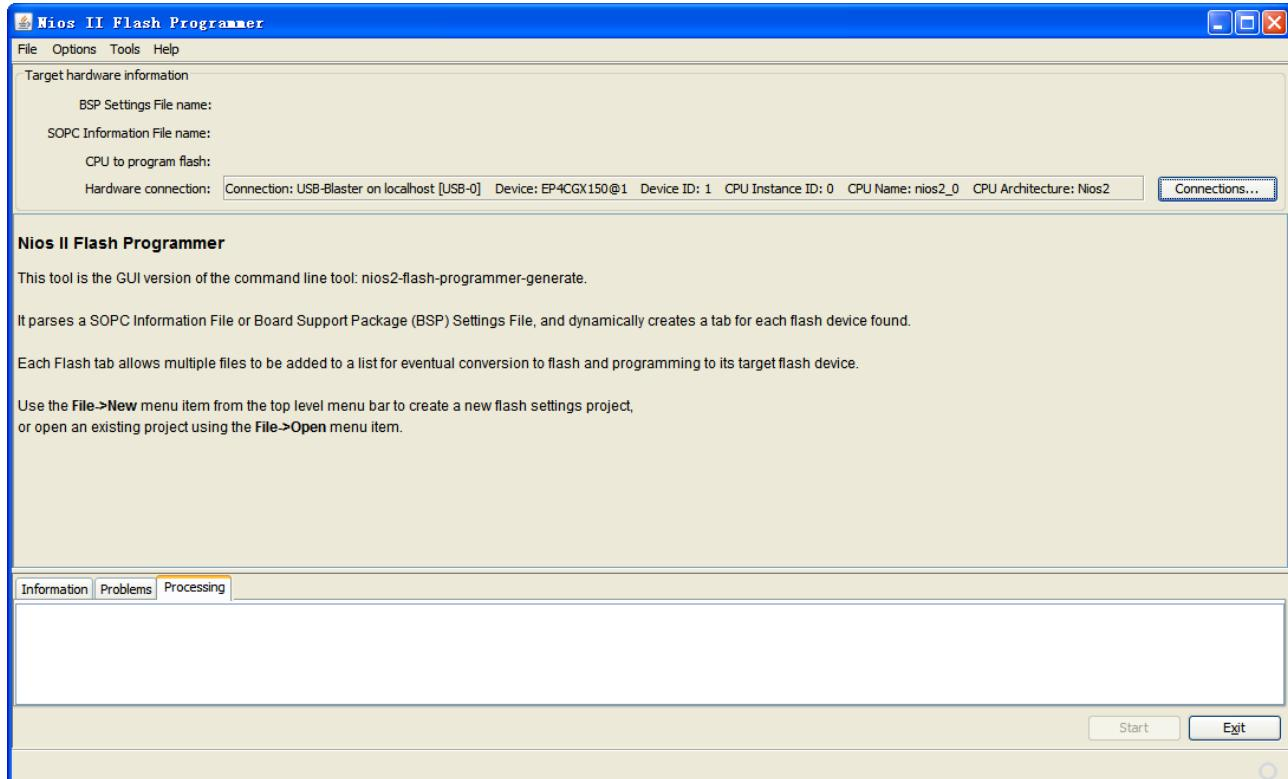

**Figure 3-22 Generate BSP**
- In the NIOS II SBT for Eclipse, right-click **My\_First\_Niosii\_bsp** and choose **Nios II > Generate BSP**. See Figure 3-22.